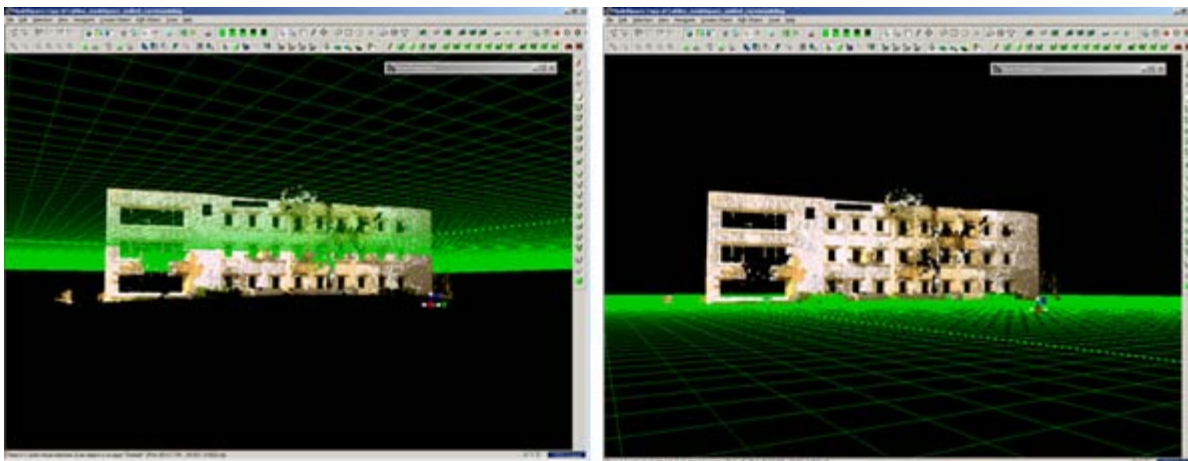

Figure 1 (Left) Setting the Reference Plane to align with the Top-down Viewpoint (Right) Moving the Reference Plane down to the building base
**2. Select Tools -> Reference Plane -> Set to Viewpoint**; this aligns the reference plane to the Top view. Note in Figure 1, the plane passes right through the middle of the building. In order to place the plane at the bottom of the building (so that our footprint sketch is placed along the building base), select a point at the very bottom of the building and then select **Tools -> reference Plane -> Set plane origin at pick point**. This translates the plane down to the building base.